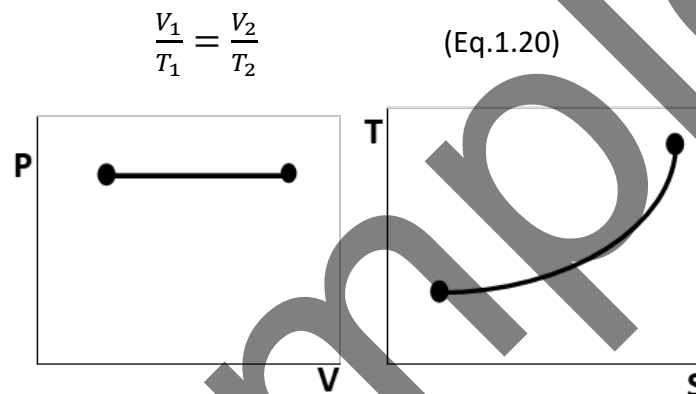

Fig.1.6: Isobaric on a  $P - V$  diagram (left) and  $T - s$  diagram (right).
**Isobaric:** Charles’ law becomes Eq.1.20. Fig.1.6 shows an isobaric system on a  $P - V$  and  $T - s$  diagram. ( $n = 0$ )